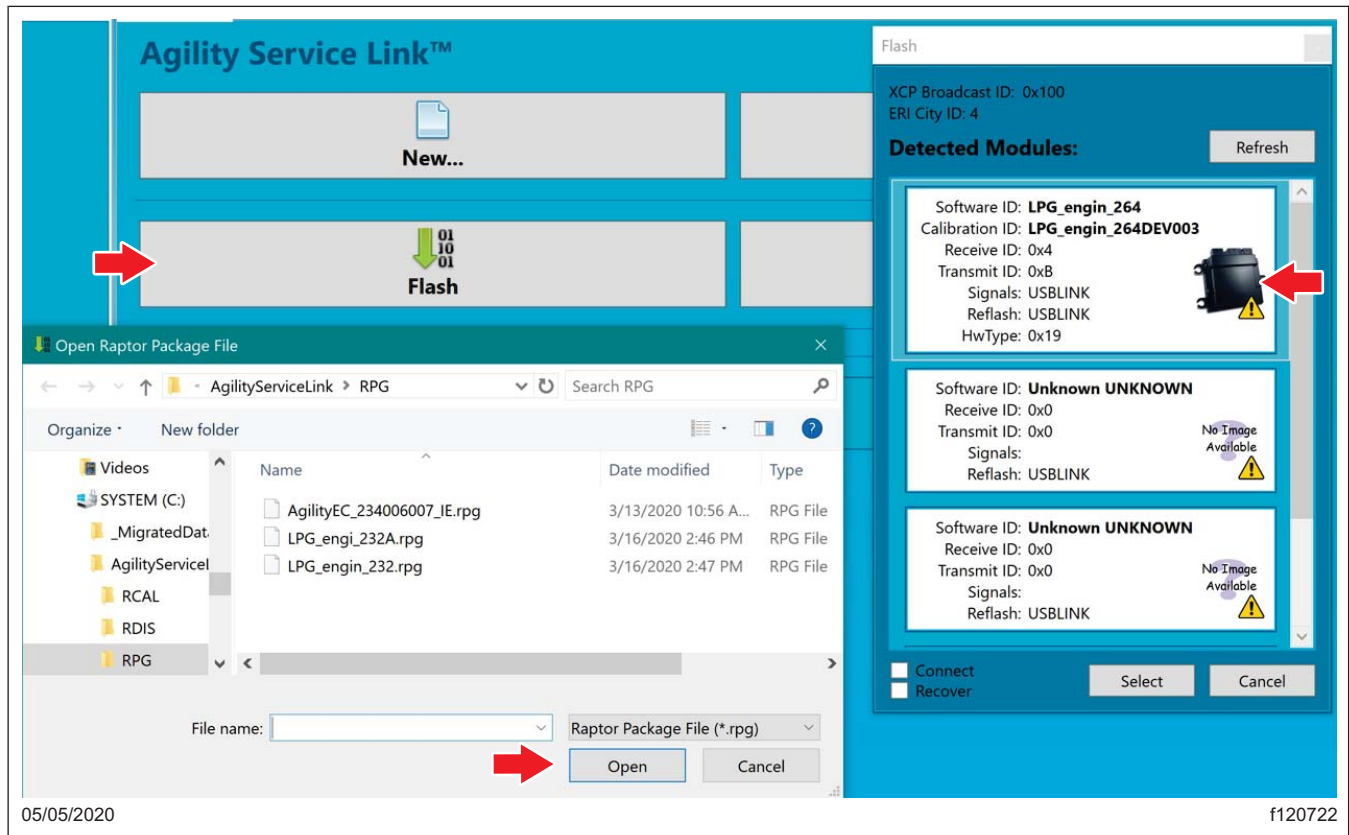

Fig. 27, Selecting Flash and the Module to be Flashed
5. Select 'Flash,' then double click the module you want to flash (it has the ECU image beside it). See Fig. 27.